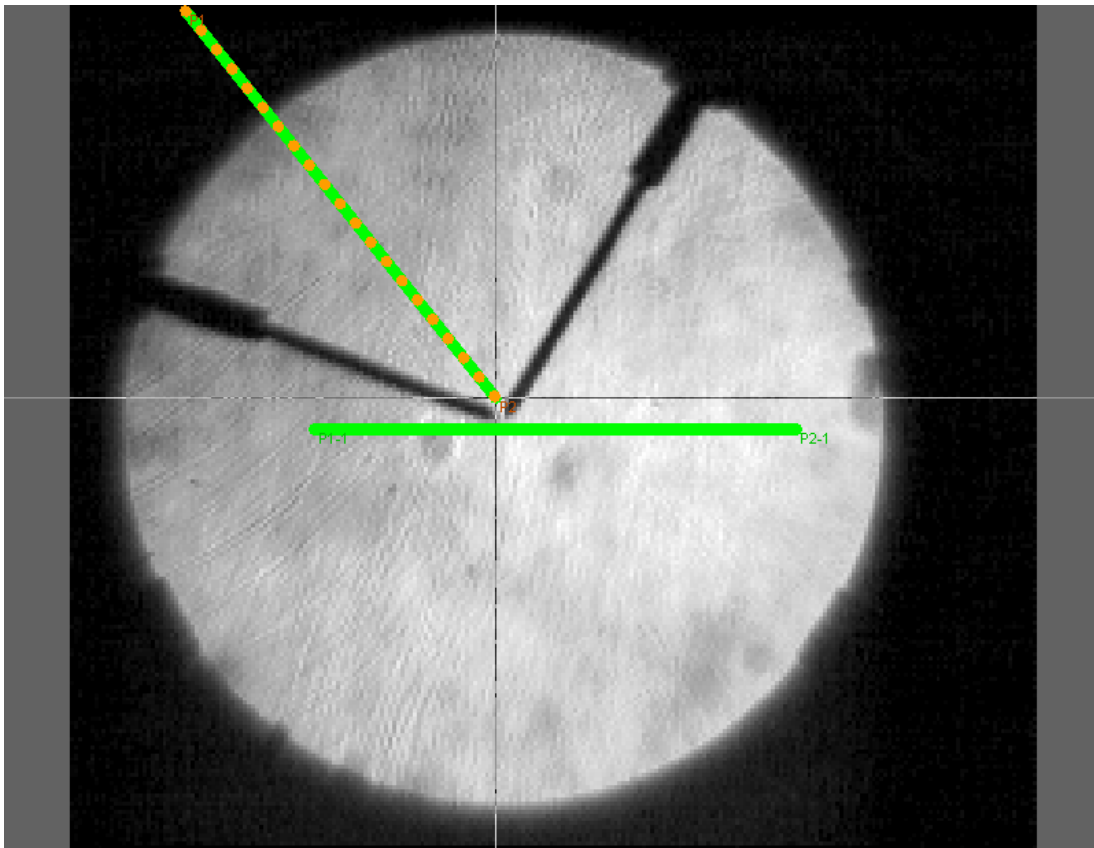

Figure 2
5. Click and hold down the left mouse button over the position where you want the line to begin. Without releasing the button, drag the mouse along the video image to the position where you want the line to end. You should see the line redraw along the path you followed (Figure 2).